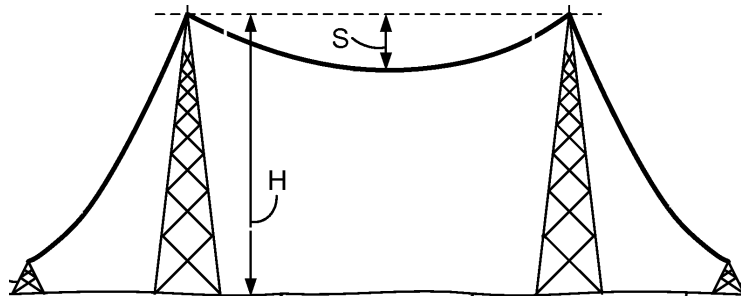

Figure 1: Overhead wiring. Cable suspended between to electric towers.
1. As a consultant in the field of mathematical modeling and computer simulations, an engineering company has hired you to help them solve an optimization problem regarding loads on overhead wiring, hanging on the air, that transfers electricity on a power grid. An instance of such overhead power cables is shown in the Figure 1.